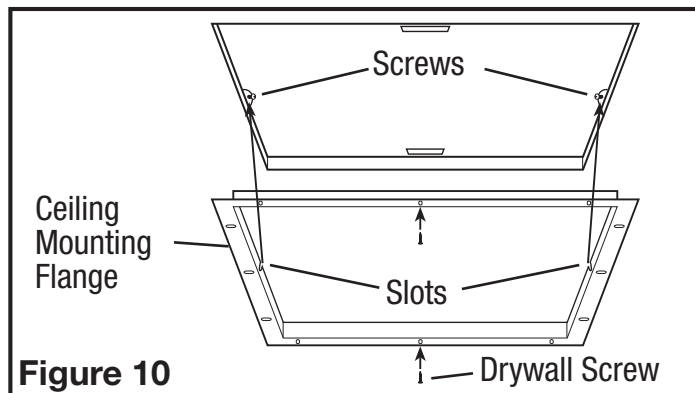

Figure 10
4. Install the ceiling mounting flange to cover any gaps which exist between the housing and the finished ceiling. Remove the two screws that connect the ceiling mounting flange to the housing. Put sealant (not provided) on inside edge of the ceiling mounting flange to ensure that the flange is sealed to the ceiling. Line up the screw holes in the ceiling mounting flange with the screw holes in the inside of the housing and press flange in place so it is tight against the ceiling. Reinstall ceiling flange mounting screws inside the housing (**Figure 10**).